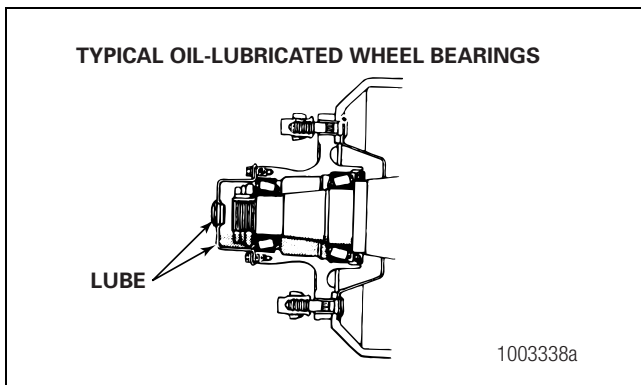

Figure 13.4
4. Add the specified oil to the specified level. Figure 13.4.